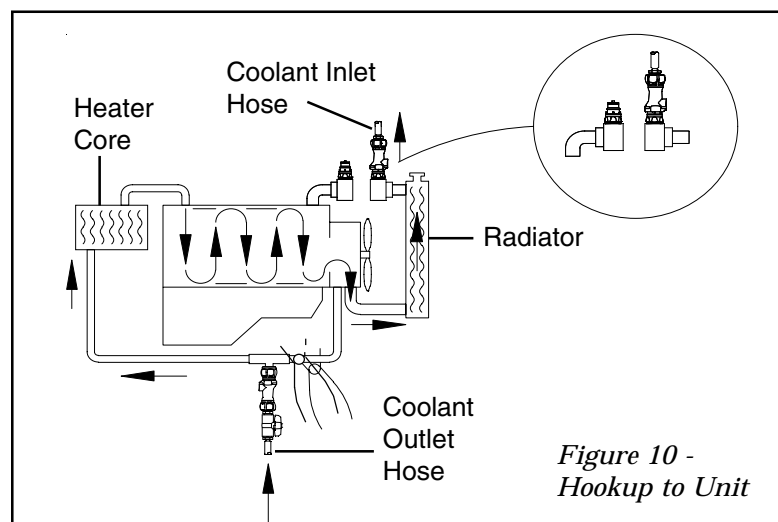

Figure 10 -
2. Using pinch-off pliers, pinch off the heater hose on both sides of the tee. Remove the tee cap and connect the quick connect nipple (female) to the tee. Remove the pinch-off pliers between the tee and the heater core (see Figure 10).